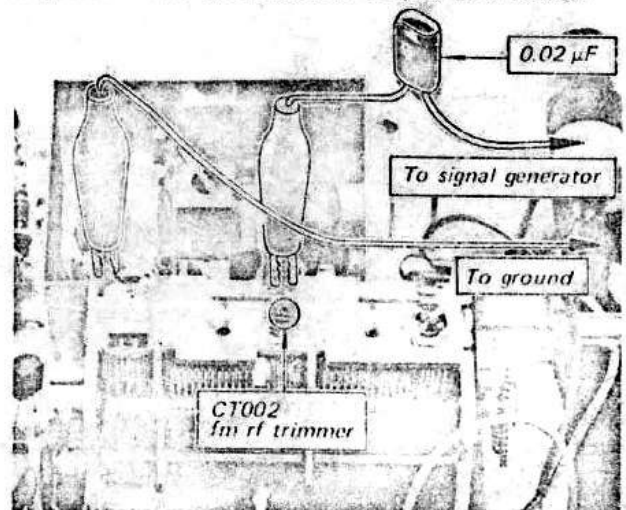

Fig. 3-4. 10.7 MHz signal injection
2. Connect the output cable of the signal generator across CT002 on the fm (a-m) front-end/i-f amp/MPX board through a $0.02\mu\text{F}$ coupling capacitor as shown in Fig. 3-4.